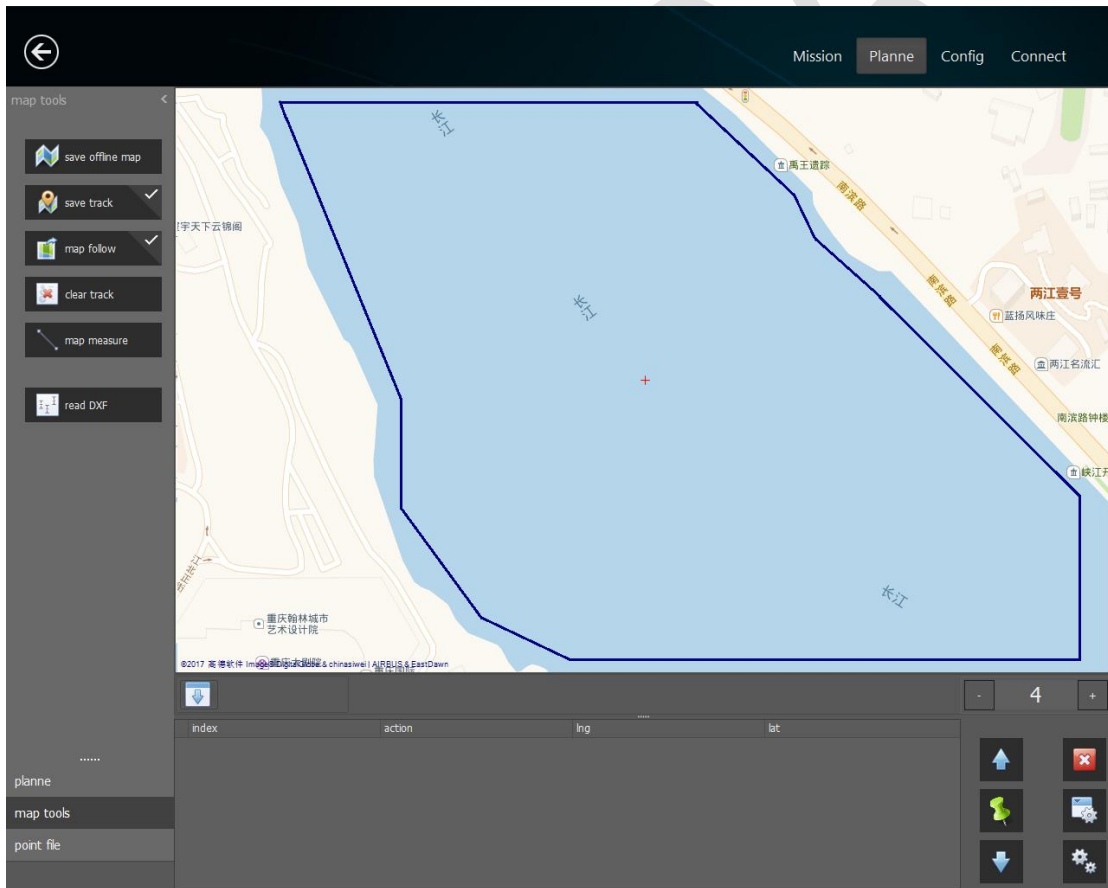

Figure 24 Save Track
2) The remote control is used to manually control the unmanned ship to navigate along the boundary of the tested area. The ground station software will record the range of navigation on the map, and it will be used as an auxiliary reference for the planning area, figure 24.